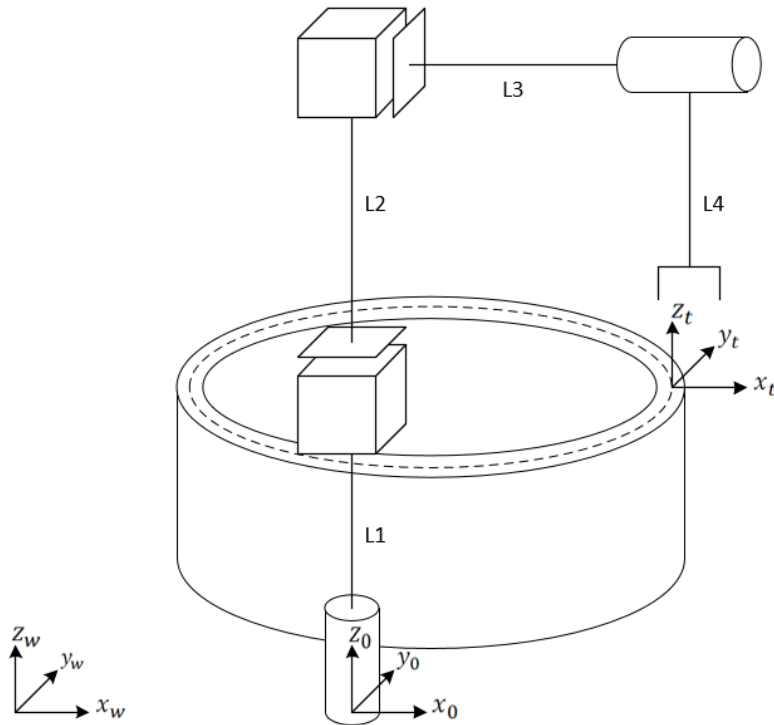

Figure 2: Robot in a welding station
- f) (5 %) We will now use our robot in a real world application. The environment where the robot shall work is shown in figure 2. A welding tool is attached to the end effector, and the robot shall weld two pipes together starting in $(0,0,0)$ in the target t coordinate frame. The target coordinate frame is located at $P_t^W = (x_t, y_t, z_t)$, where W is the world coordinate frame. The robots base coordinate frame is located at $P_b^W = (x_b, y_b, z_b)$. Write the formulas which will describe the joint configuration that puts the TCP (Tool Center Point, at the tip of the tool/end effector) at $(0,0,0)$ in the target coordinate frame. Describe your approach thoroughly.